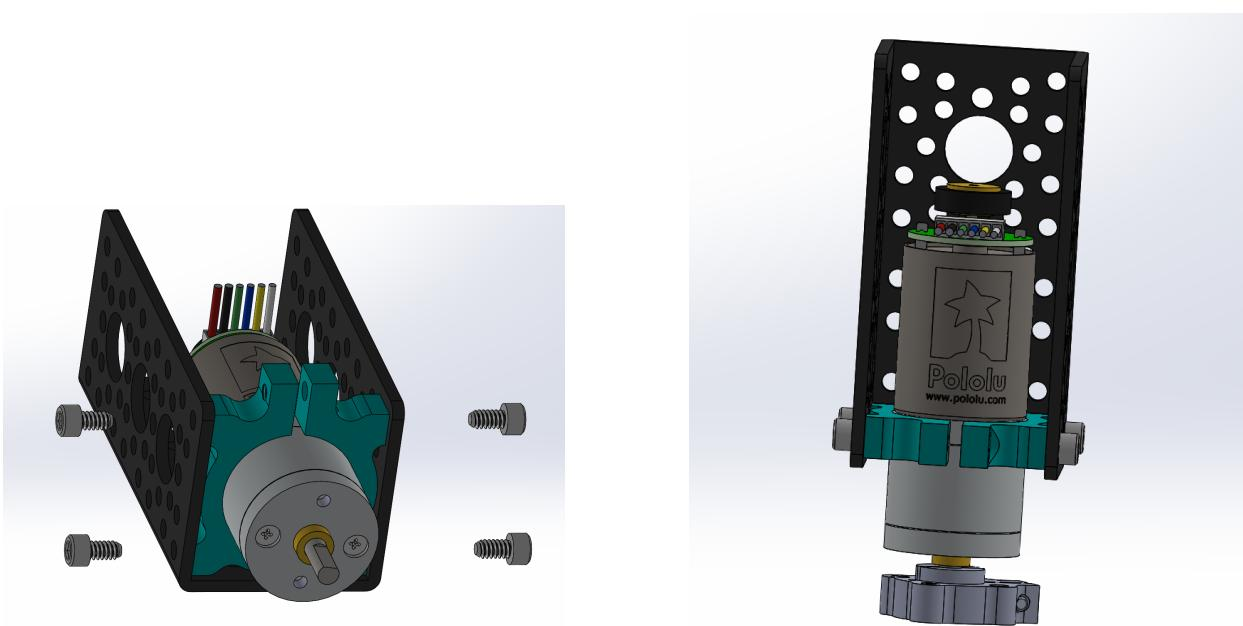

Figure 3: Wheel Step 1
- 1. Motor Mount:** Start by attaching the motor **E5** into the 3 inch channel **S2** using clamping mount **S25** and screws **B1** as shown in Figure 3. Make sure to slide the motor all the way to the top of the gearbox in the clamping hub (exactly as shown in Figure 3).